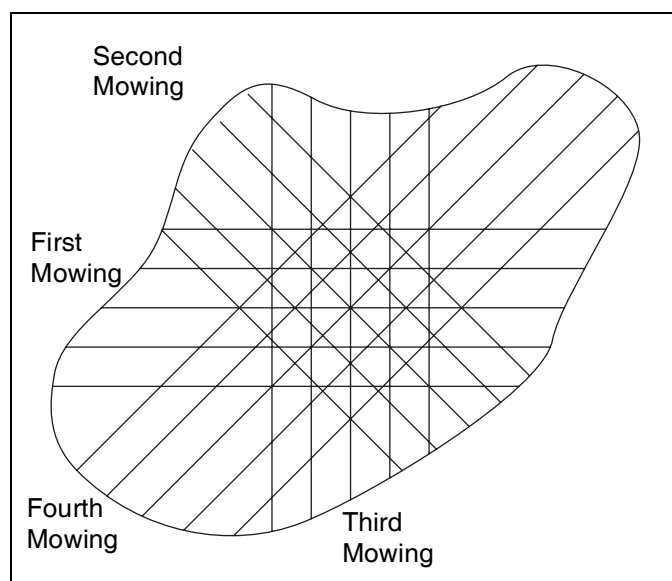

Figure 6F
5. For a more even playing surface and neater appearance, alter the mowing pattern each time a green is mowed. The patterns shown in **Figure 6F** are suggestions only, the operator or course superintendent can arrange patterns to suit each green.